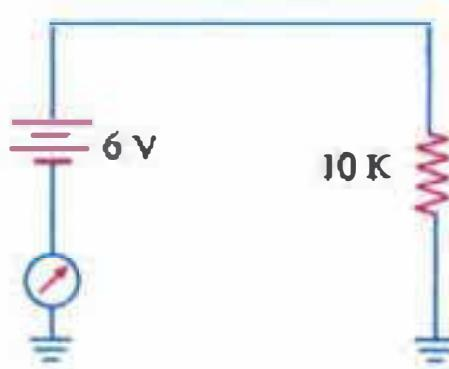

Fig. 1.17
3. Find the reading of the milliammeter connected in the circuit of Fig. 1.17. [0.6 mA]